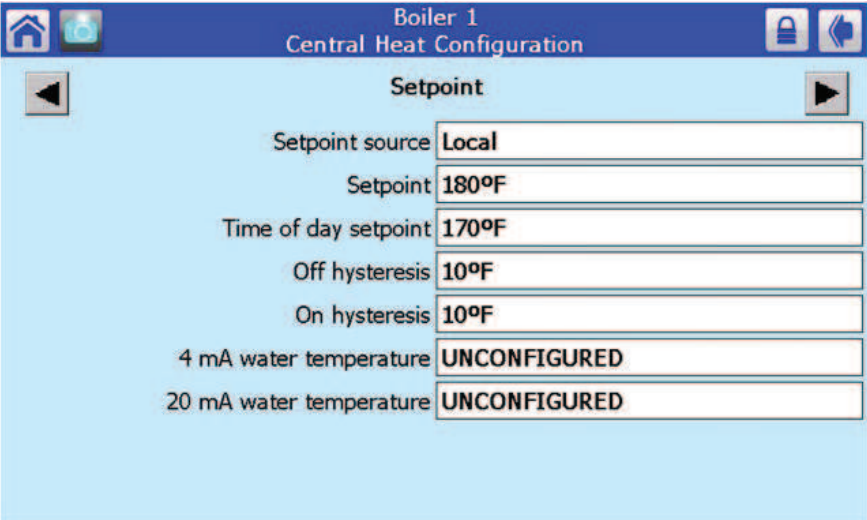

FIGURE 20 - CENTRAL HEAT CONFIGURATION SETPOINT
- **Central Heat Configuration (Setpoint)** – (See Figure 20) The highest water temperature the boiler will try to maintain in relation to the to the Minimum Outdoor Temperature